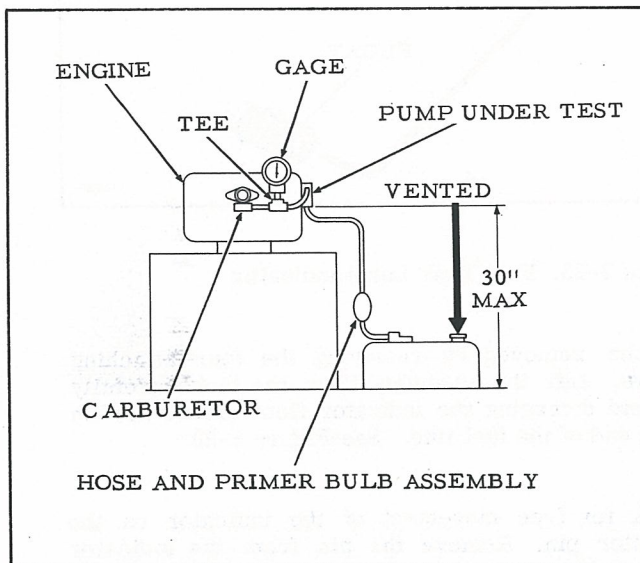

Figure 3-19. Fuel Pump Pressure Test
1. Connect a fuel pressure gauge between the carburetor and fuel pump as illustrated in Figure 3-19.